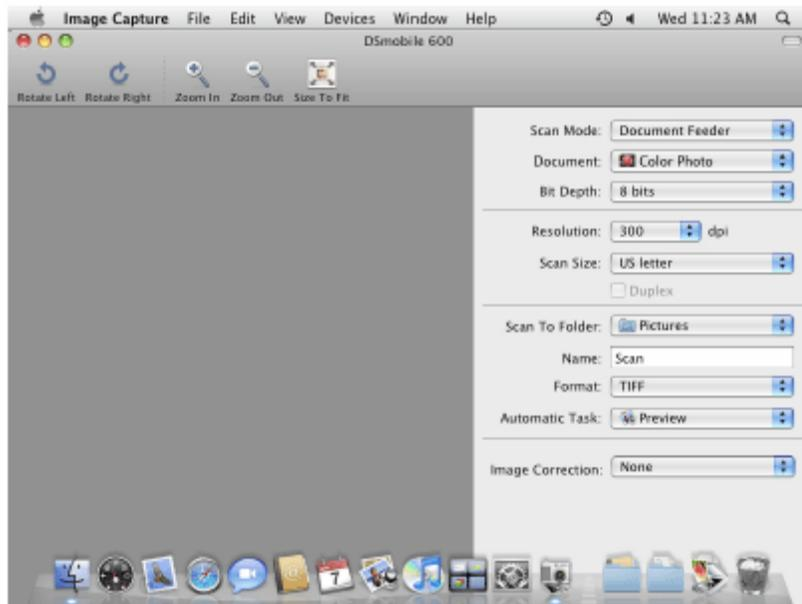

Figure 1. Leopard Image Capture Window
3. Open the Applications folder and run “Image Capture” (See Figure 1).